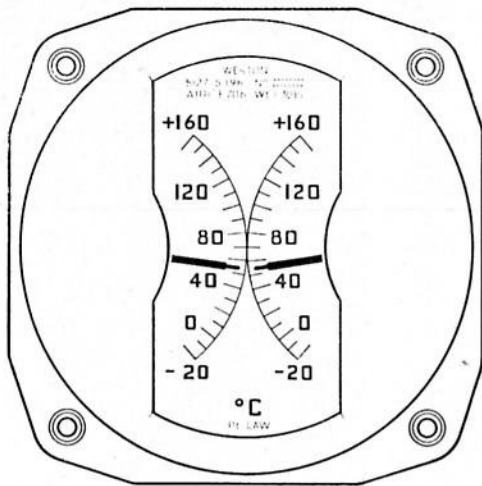

Fig. 1. Indicator, Type S127/5/196
1. The dual temperature indicator Type S127.5.196 (fig. 1) is calibrated in deg. C from -20 to +160 on each of two scales. The deflection of each pointer is controlled by the variation of resistance of an externally connected platinum law resistance thermometer element. The two indicator movements are each designed as a ratiometer.